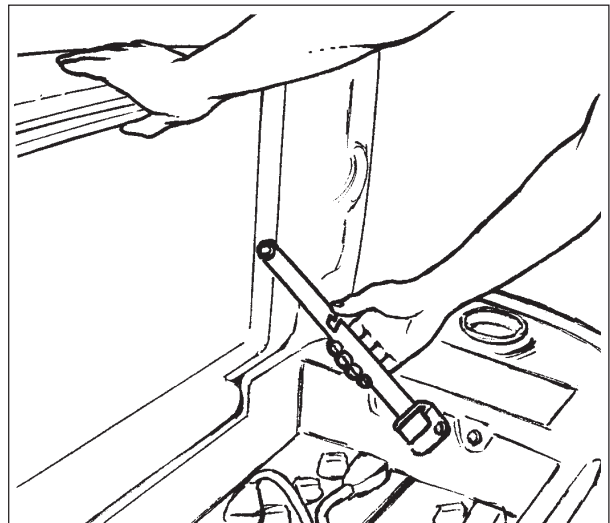

Figure 12
3. Before charging the batteries the battery compartment needs to be vented. To vent compartment, tip up the recovery tank until it locks in either of the two open positions. See figure 12. To close the tank, pull up on the latch arm and then slowly lower the tank to the closed position.